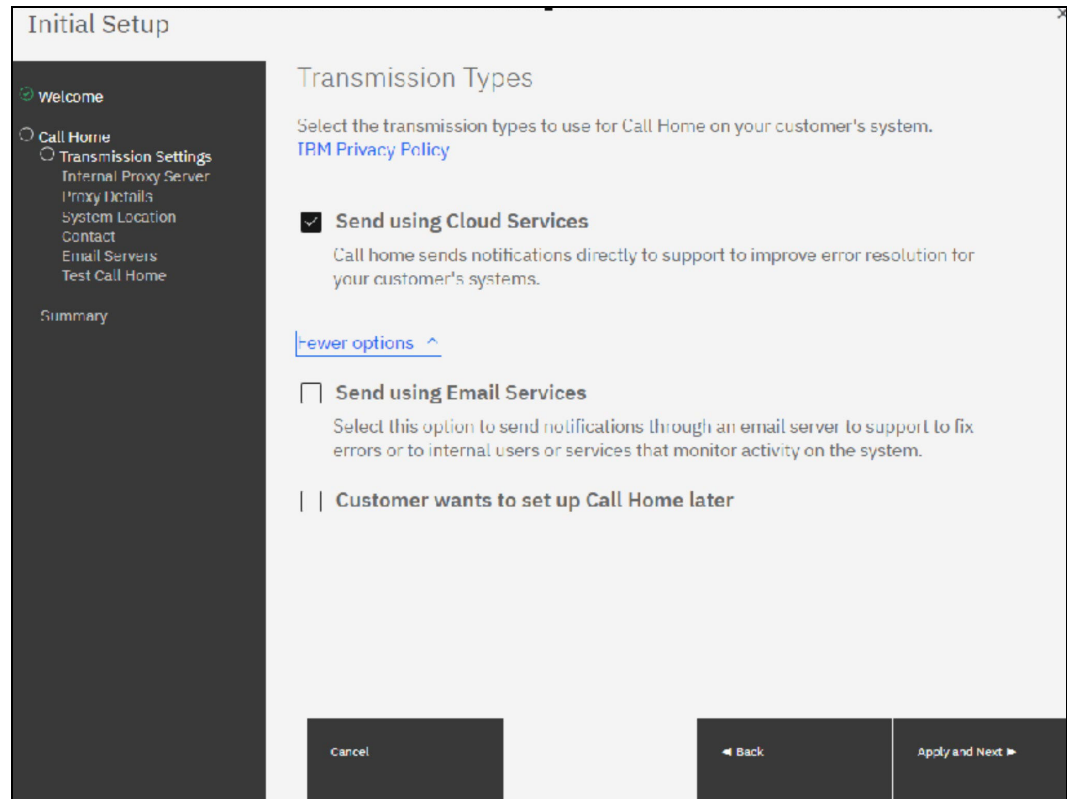

Figure 2-19 Transmission Types for Call Home
5. System Setup prompts to select which transmission types to be used for Call Home. See Figure 2-19 on page 30.